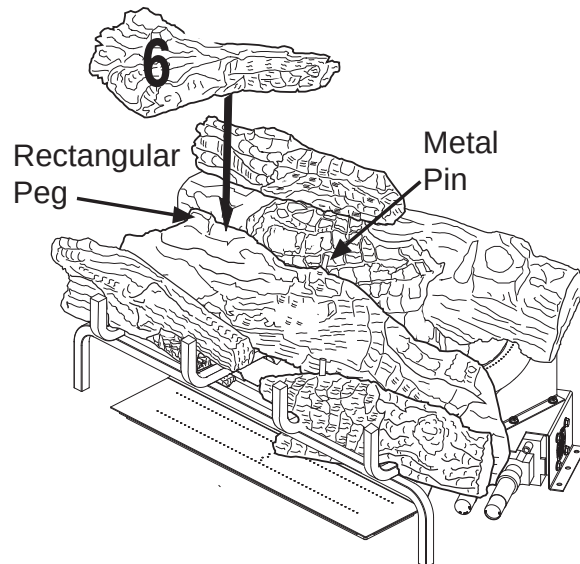

Figure 26 - Installing Log # 6
6. Place the left top forked log (#6) on the top of the middle log (#2). Match the rectangular projection on top of the middle log (#2) with the rectangular hole on the bottom of the left top forked log (#6). Match the metal pin on the top of the middle log (#2) with the round hole in the bottom of the left top forked log (#6). See **Figure 26**.